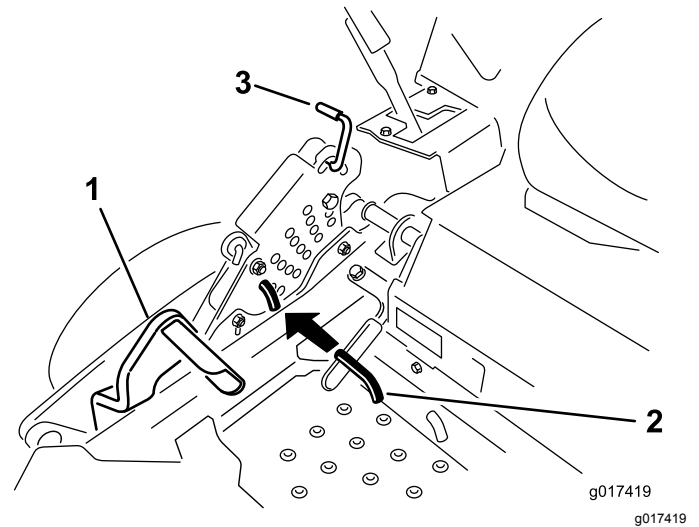

Figure 76
5. Push the deck-lift pedal all the way forward so the deck latches at the 14 cm (5-1/2 inch) transport position (Figure 76).